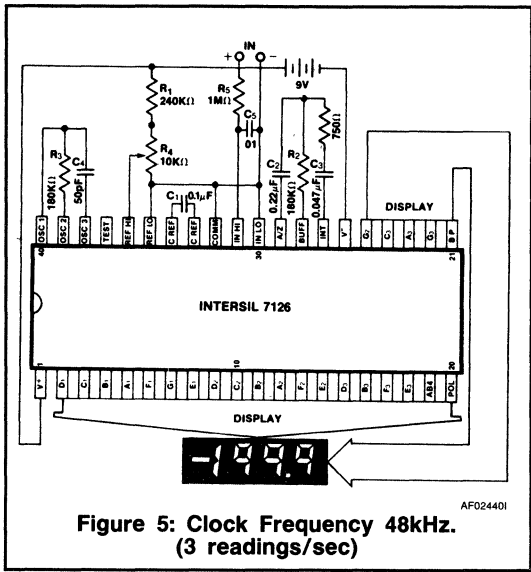

Figure 5: Clock Frequency 48kHz. (3 readings/sec)
6. During auto zero phase, current is 10-20 μA higher 48kHz oscillator, Figure 5, increases current by 8 μA (typ).